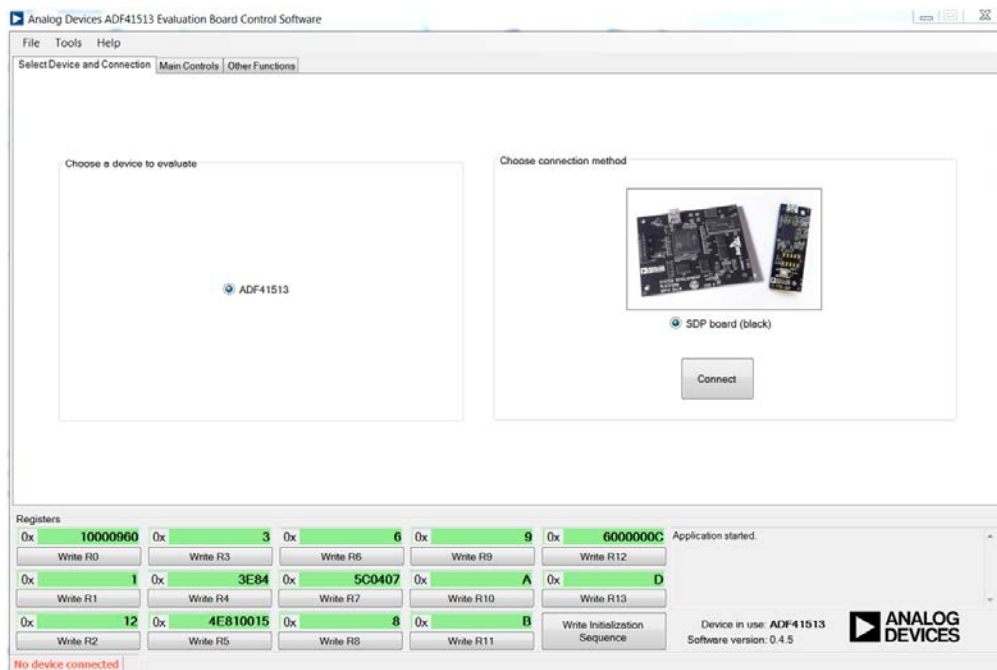

Figure 2. Software Front Panel Display, **Select Device and Connection** Tab
2. In the **Select Device and Connection** tab, click **Connect** (see Figure 2).
9. Select **ADF41513** and **SDP board (black)** in the **Select Device and Connection** tab (see Figure 2).